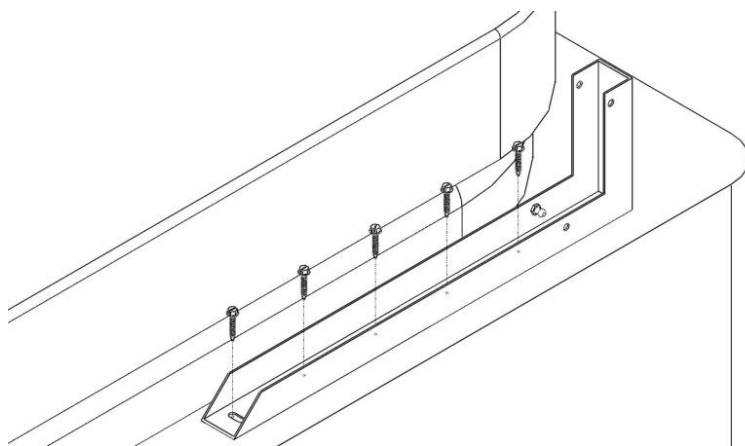

Figure 6b
b. Mount the Channel Bracket (cvBB) to the decking using at least 4 Lag Screws (cvA), make sure to leave room for the cover and the vinyl skirt to fit between the acrylic and the Channel Bracket (cvBB). See Fig 6b.